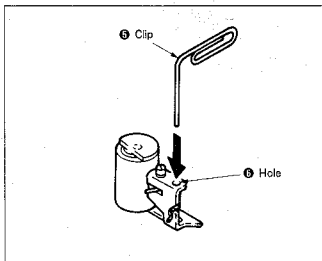

Fig. 7-20.
- 2) Insert the end of the clip ⑤ or another thin rod inside the pinch roller arm assembly hole ⑥. (See Figs. 7-20, and 7-21.)